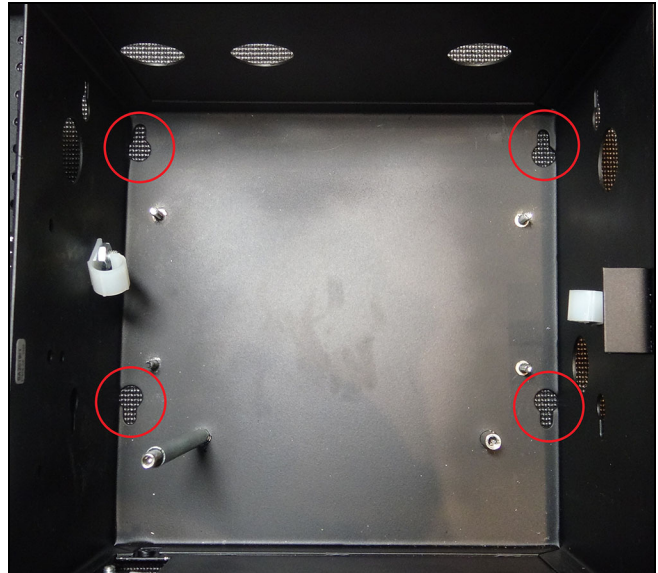

Figure 16 Rear mounting holes. Controller removed for illustrative purposes only.
2. Mount the box from the side or back using the installation keyholes on the control box and the installation screws provided. Use an extended #2 Phillips bit to aid in installation. When mounting on the back start with the bottom left screw first. Fasten all screws to securely mount the control box (4 screws for rear mount, 2 screws for side mount). See Figure 16.